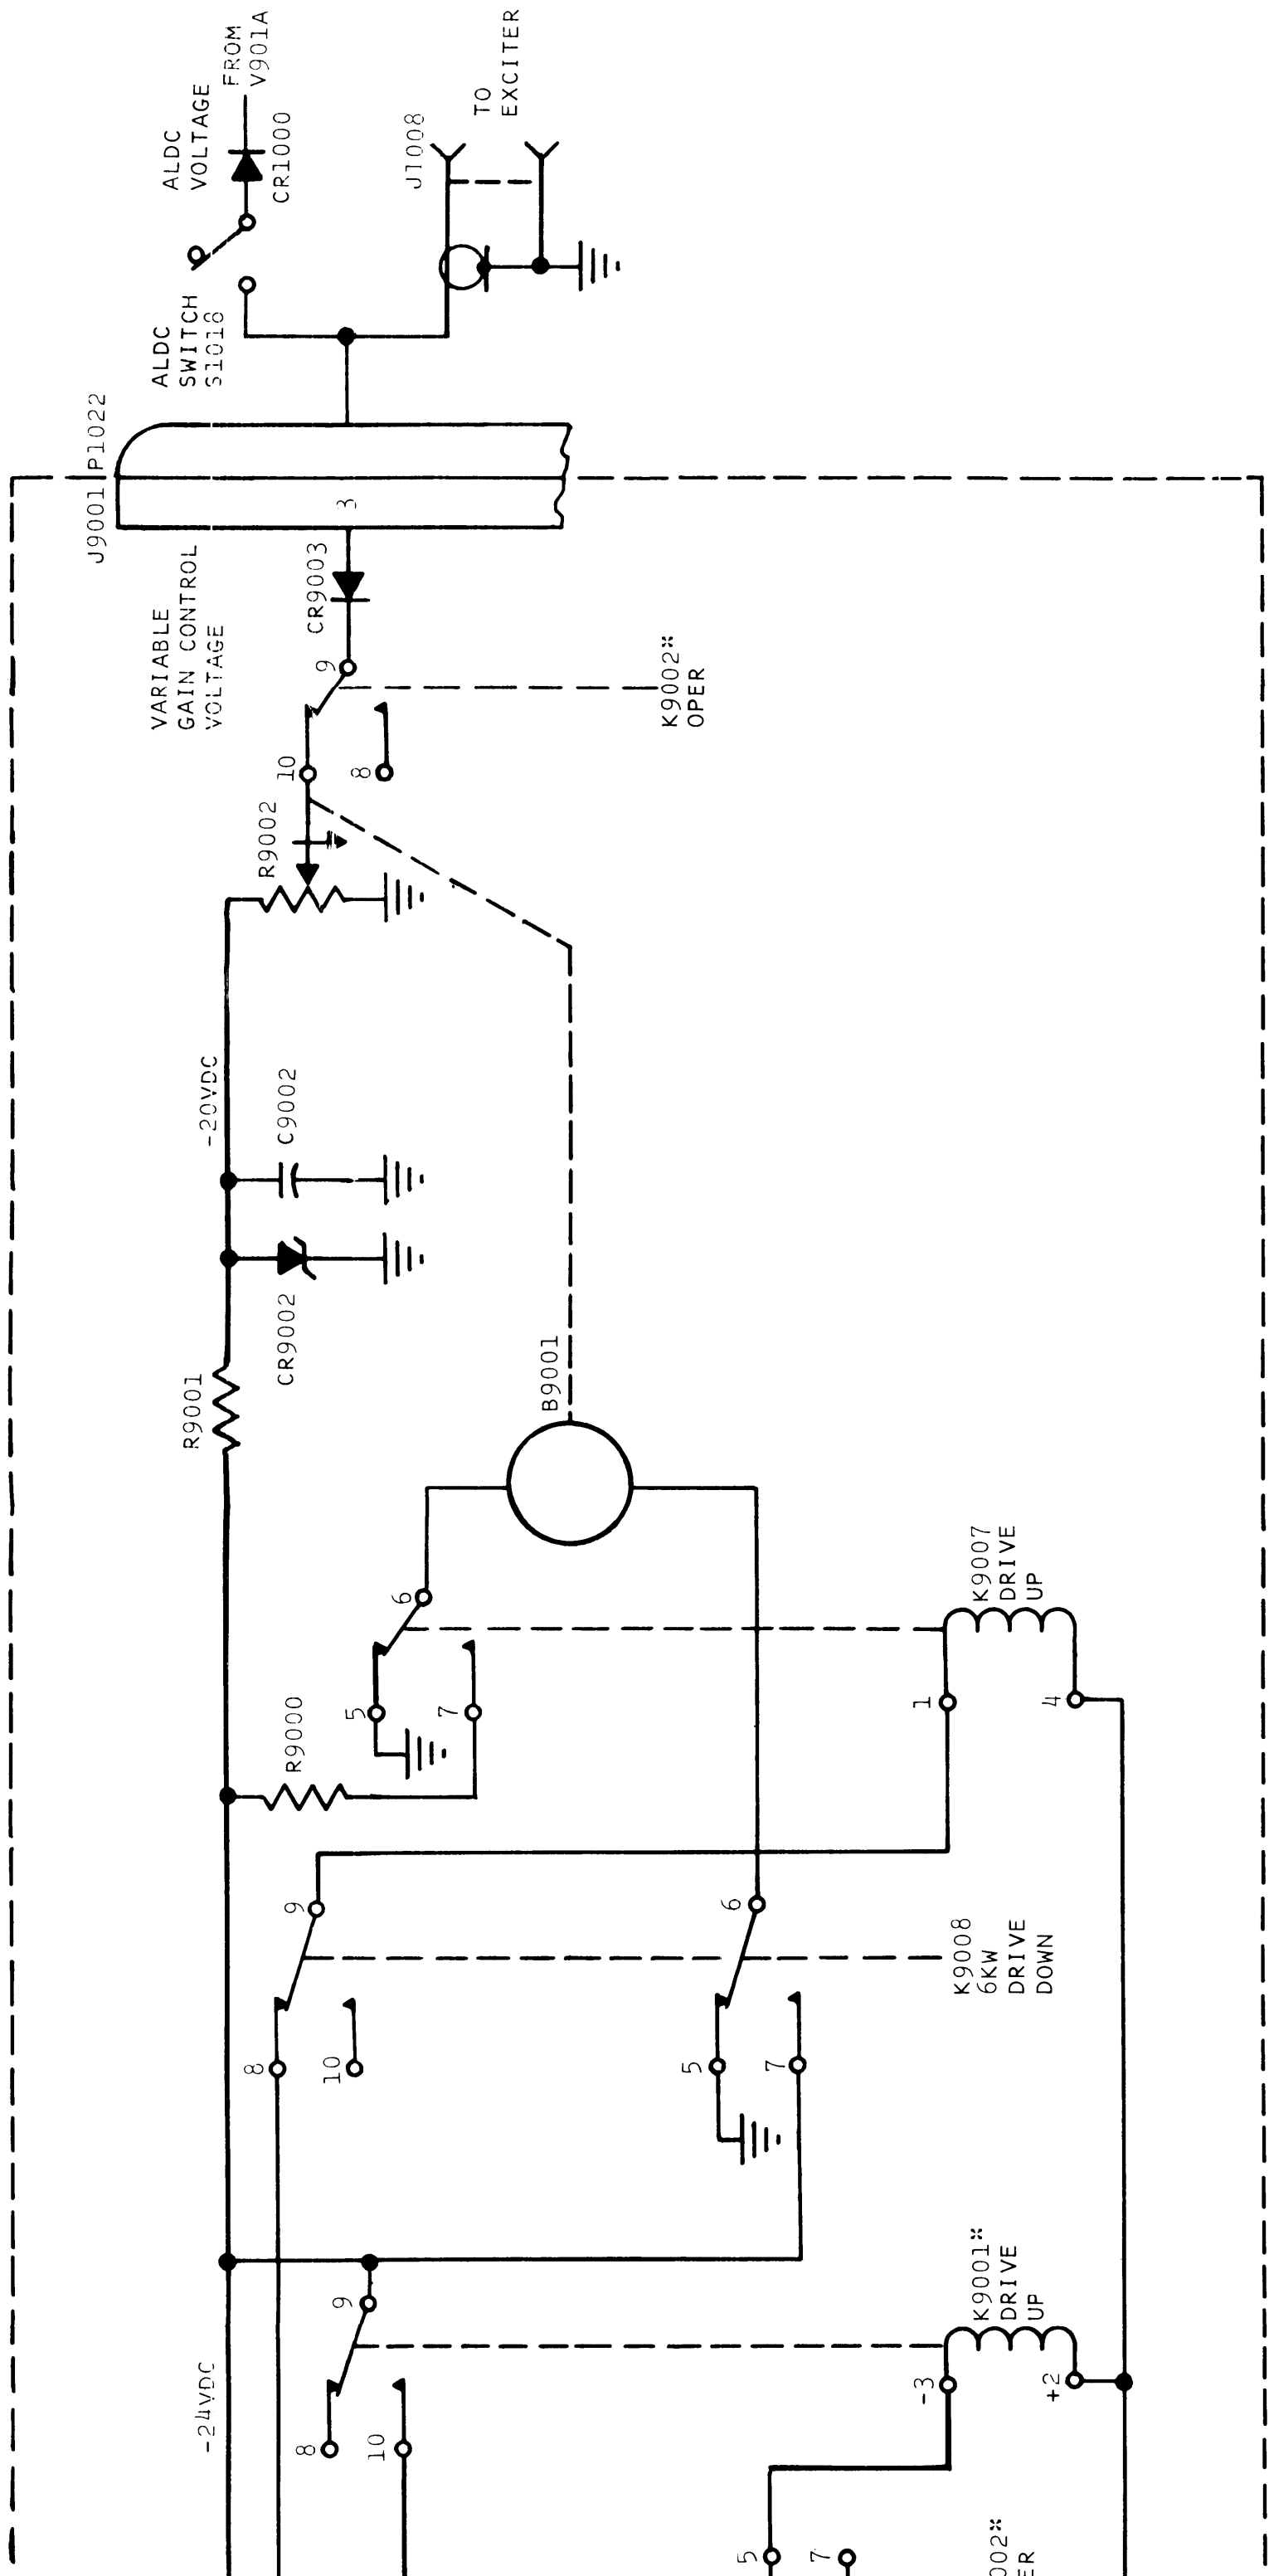

Figure 2-18. LLC During Power Drive-up.
(1) GENERAL. - There are two controls used on PA OUTPUT meter M1006 to maintain the lower and upper power limits of the transmitter. For 10 kw (PEP) operation, these controls may be preset at 5 kw and 6 kw. When either of these two limits is reached, the output of a photo-electric cell is interrupted, conditioning relays in the LLC, which in turn control the operation of drive motor B9001. The discussion to follow is limited to the aspects of LLC during lower power limit operation. Refer to paragraph e for LLC upper power limit operation.
(2) FUNCTIONAL ANALYSIS (See Figure 2-18). - Prior to LLC lower power limit operation, drive-up relay K9007 is energized through a series of interlocking relay contacts (refer to paragraph c). The closed contacts of relay K9007 feeds power to the drive motor, causing it to rotate the wiper-arm of potentiometer R9002 in the raise power direction. At the same time, a corresponding increase in power is indicated by front panel PA OUTPUT meter M1006.
Under normal conditions, the relays in the LLC are operated to drive the motor in the raise power direction until the lower power limit of the transmitter is reached. Should an operational failure occur during the power drive-up period, the motor will continue to rotate until it reaches a preset position and trips microswitch S9002 at its upper limit. When the contacts of the microswitch close, a ground path is then enabled, conditioning relay K9004 to latch in the drive-down position. As previously described, when relay K9004 is operated in the drive-down position, relay K9008 is activated, causing the motor to rotate in the drive down direction. At the same time relay K9008 acts to disable drive-up relay K9007 (see figure 2-18).